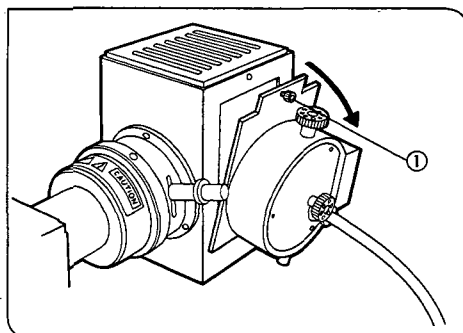

Fig. 4
1. Using the Allen wrench, loosen the burner socket clamping screw ①. Then gently open the socket approximately 90° in the direction of the arrow. (Fig. 4)
4. Return the burner socket with the mounted burner to its original position and tighten the socket clamping screw ①. (Fig. 4 on page 4)